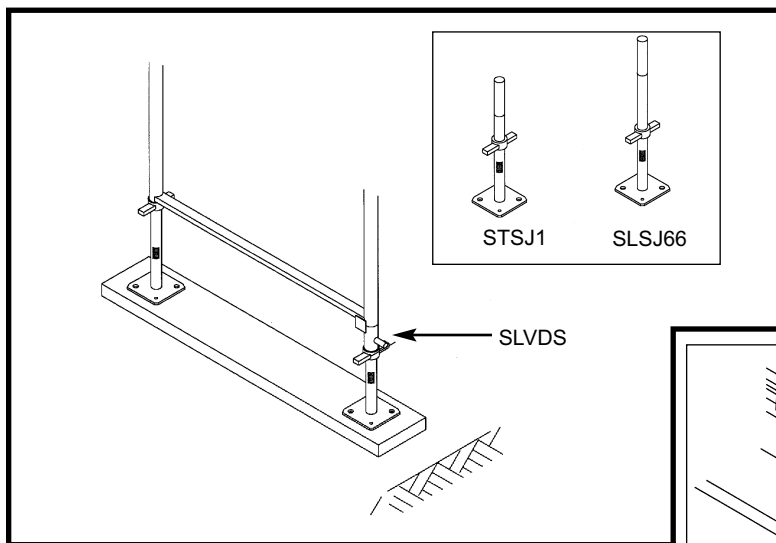

Figure 1: Screw Jack Adjustment
**2.2.3 Base Support:** A horizontal rail (SLGR\_) is required at the base of all Safway SL Frame Scaffold installations. This member is installed on the outside frame leg prior to installing the SL frame, is continuous on run scaffolds and is fastened to either a Base Support (SLBS) or to a Vertical Diagonal Starter (SLVDS) (See Figs. 1 and 2).
**2.2.2 Screw Jacks with Base Plates:** Scaffold frames must always be supported by means of Screw Jacks with base plates and sills where required (see paragraph 2.2.1 and Fig. 1). Two lengths of Screw Jacks are available, the Safway Systems™ Screw Jack (STSJ1) which is 21 inches (53.3 cm) long and the SL Frame